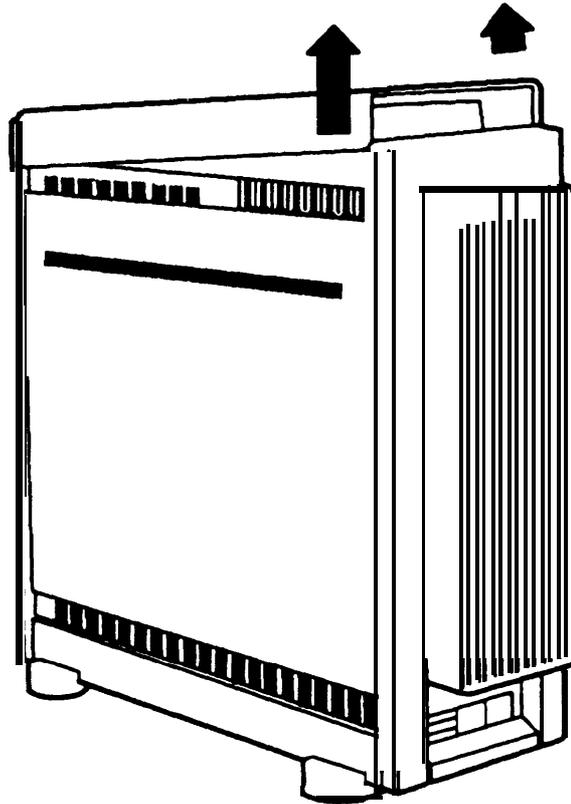

Figure 2-2 6386E WGS Removing Top Cover
3. Remove the top cover of the system by lifting from the rear as shown in Figure 2-2.